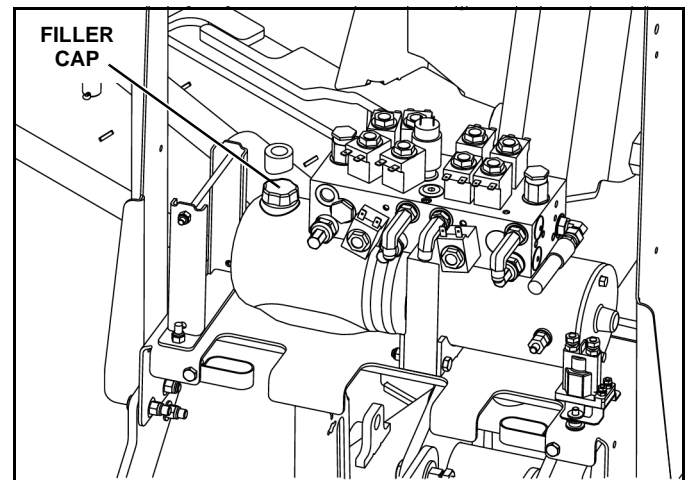

Figure 1-38
4. Remove the filler/breather cap from the reservoir. (See Figure 1-38).